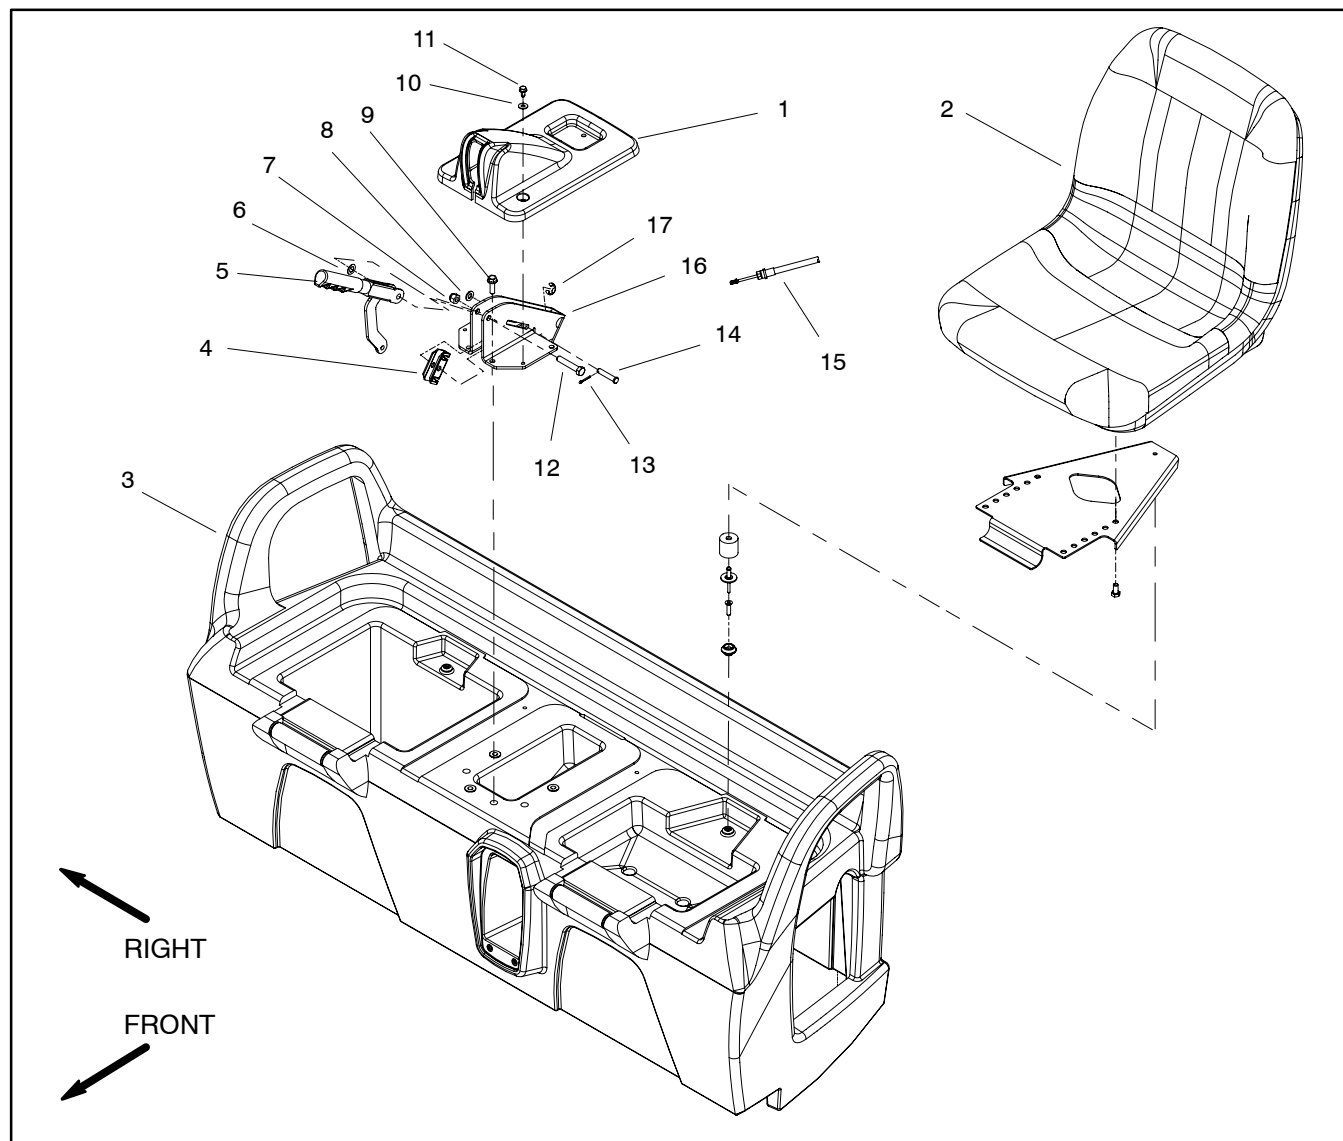

Figure 12
Disassembly (Fig. 12)
5. Remove four (4) flange head screws that secure parking brake support to seat base.
7. Remove brake cables from parking brake support and cable equalizer bracket using Figure 12 as a guide.
Assembly (Fig. 12)
1. Secure brake cables to parking brake support and cable equalizer bracket using Figure 12 as a guide.
3. Secure parking brake support to seat base with four (4) flange head screws.